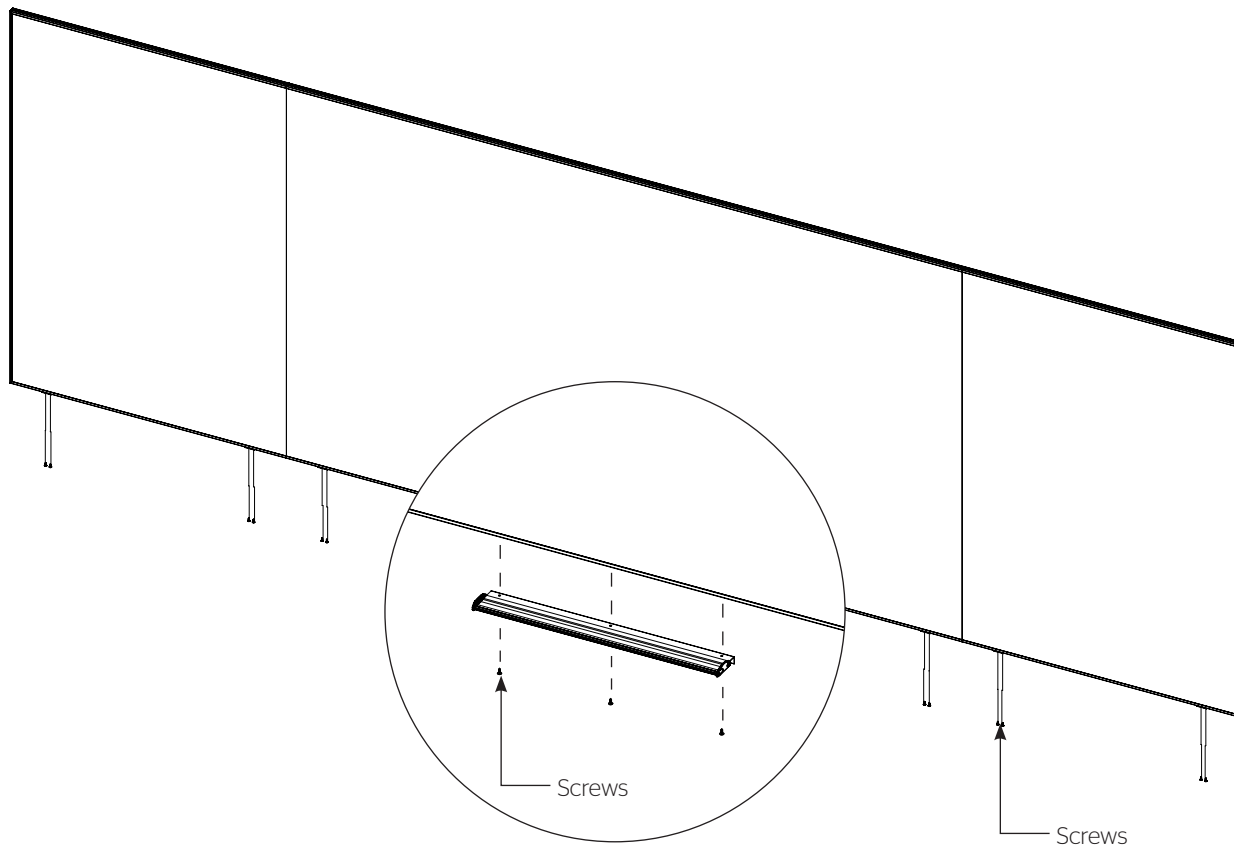

Figure 4
- Center the aluminum tray to the bottom of the center panel frame and attach with (3) of the provided screws. Insert screws through the tray into the groove (Figure 4).
- Tap the bottom of the six L-brackets with the rubber mallet until they make contact with the frame. Secure the six L-brackets to the frame with the remaining (12) screws (Figure 4).